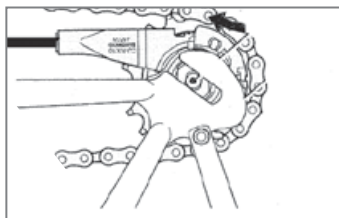

Fig. 69. Link latching
1. Latch the line in the handle, Fig. 69.